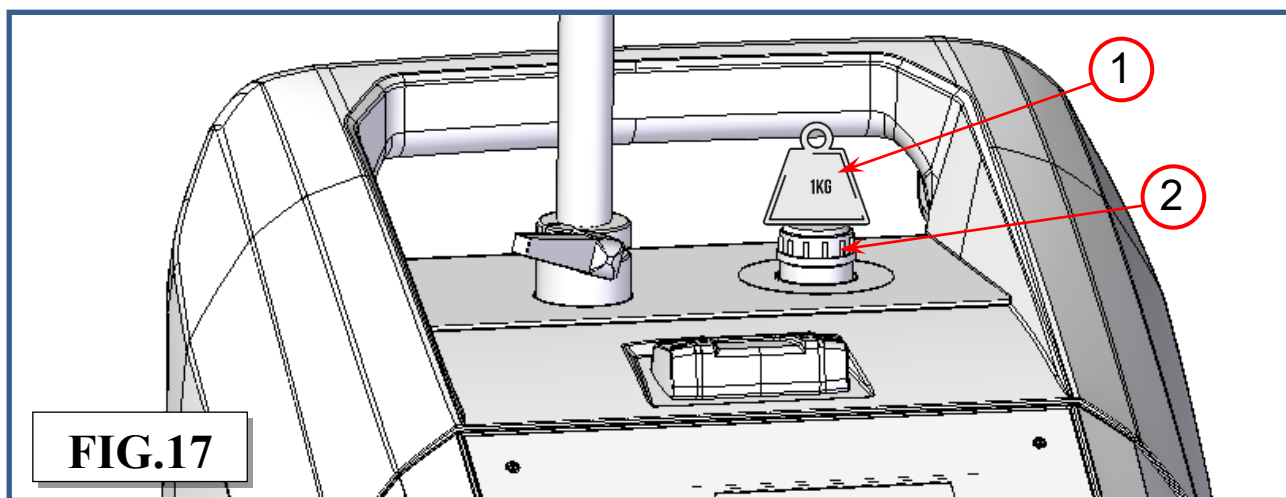

FIG.17
- Place a 1 kg reference weight (ref 1, Fig.17) over the cleaner cap (ref 2, Fig.17).